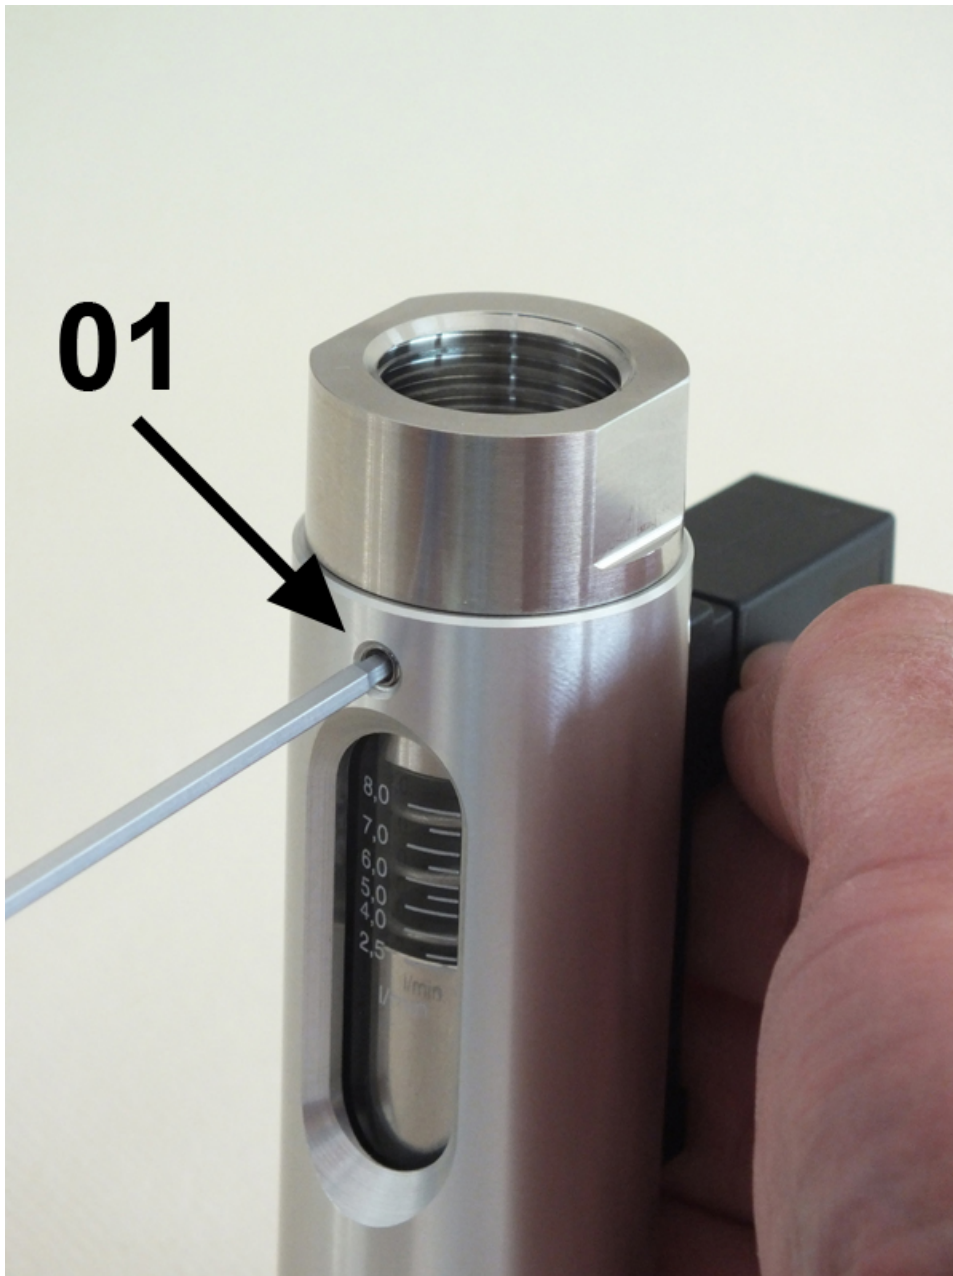

Fig. 35: Loosen screws
1. ➤ Loosen the top 3 hex socket screws (*Fig. 35/01*) using a hex screwdriver